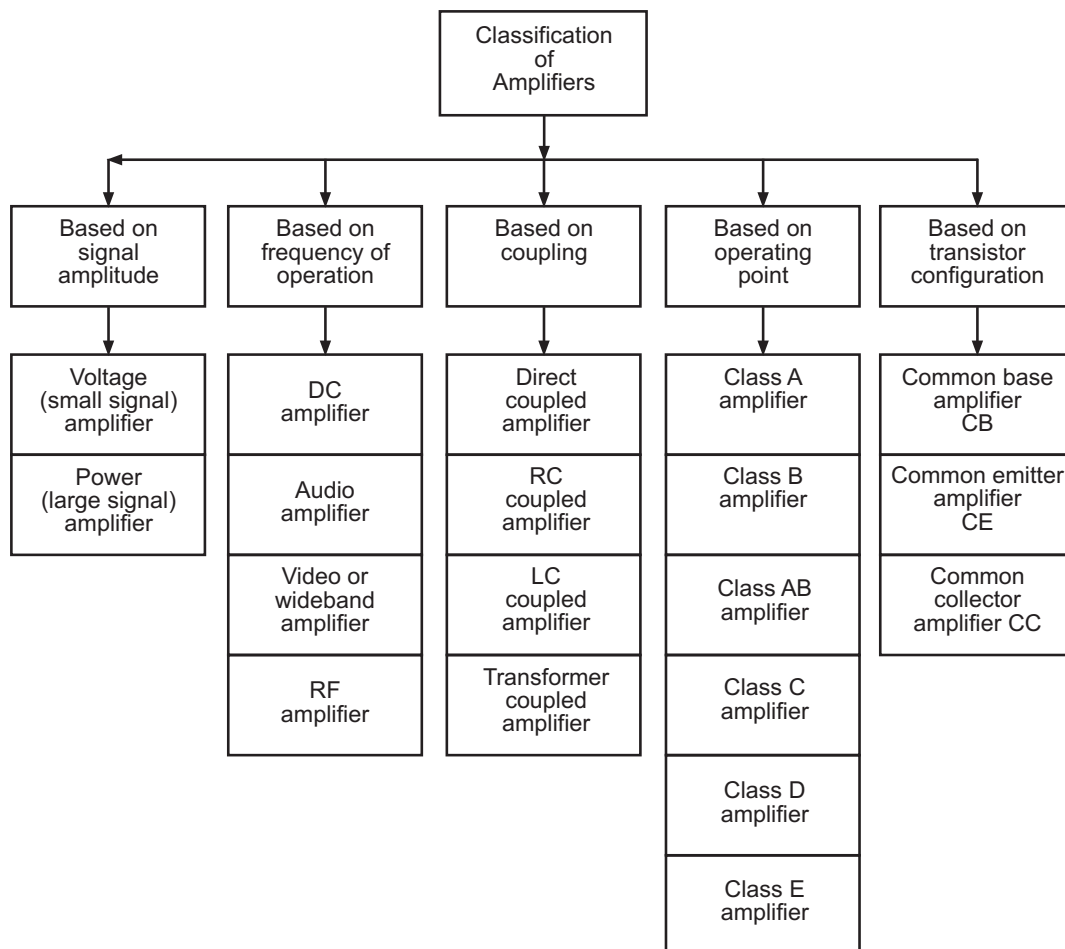

Fig. 1.3 : Classification of amplifier
- The amplifiers may be classified in the various different ways by referring to different properties or construction of amplifier. This classification is summarized in Fig. 1.3 below.